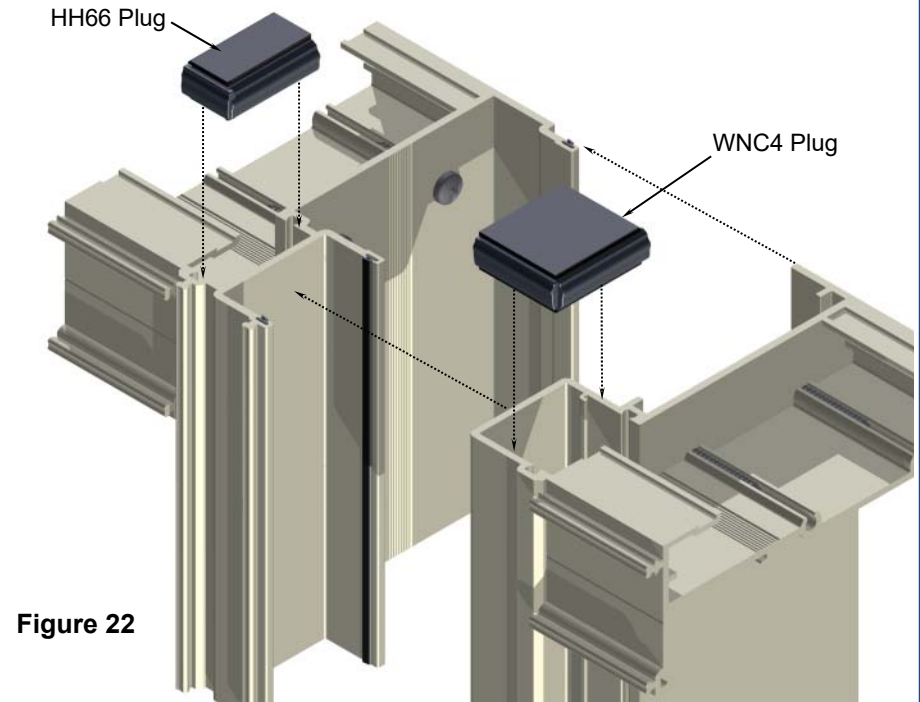

Figure 22
- **Expansion Mullion:** Before installing either unit into the opening apply silicone type sealant to the edges of HH66 and WNC4 mullion plugs. Push them into the top end of there applicable vertical so that the top of the plug is flush with the end of the expansion mullion vertical. See figure 22. Then install units into the opening per instructions.